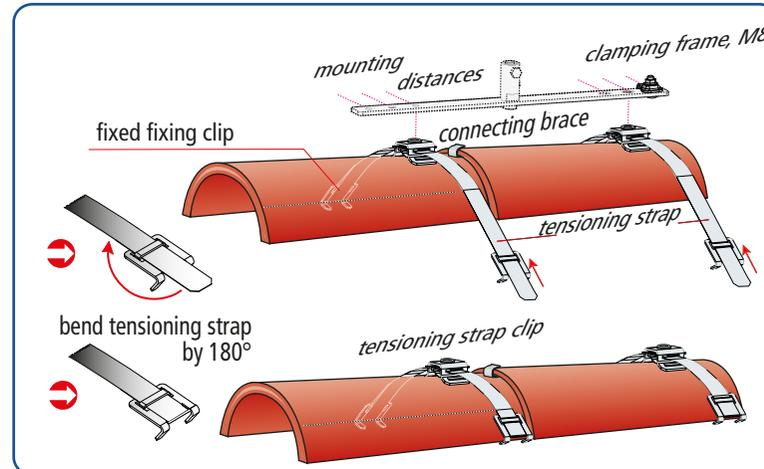

Fig. 2
- ➔ Slide the fixing clips to the lower edge of the ridge tile and adjust them. The tensioning strap must be hand-tight. It is now bent around the fixing clip by 180° (see Fig. 2).